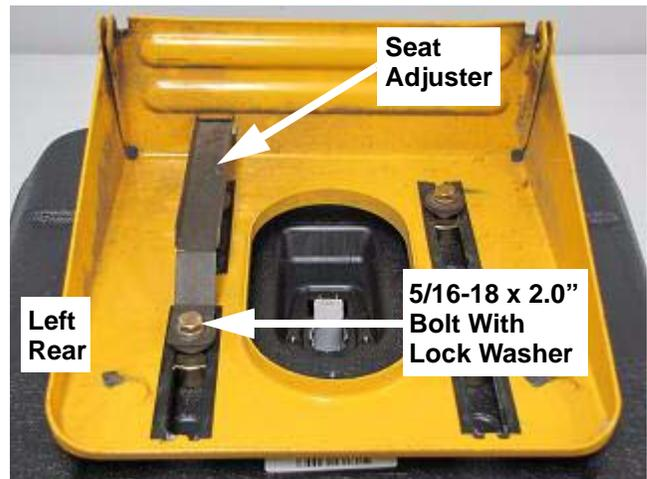

FIGURE 16
25. Align the hole in the seat adjuster with the left rear shoulder spacer and install the remaining bolt with lock washer. Tighten securely. See Figure 16.